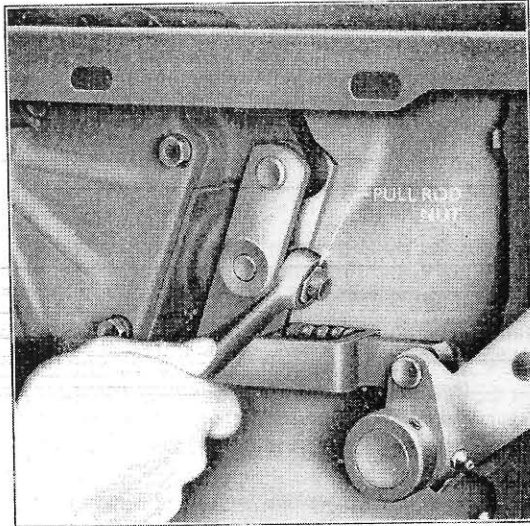

Fig. 14
3. With the pedal return spring removed, adjust the pull rod nut (see Fig. 14) until the pedal just contacts the pedal upper stop. Slacken off the pull rod nut one and a half turns. This will give a pedal-free travel of 1.5 in. (38.1 mm) at the pedal pad or .81 in. (20.57 mm) at the pedal upper stop.